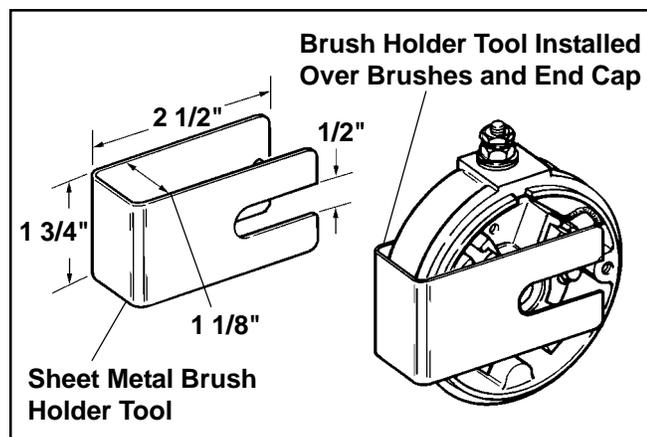

Figure 8-36. Brush Holder Tool (Style "A" End Cap).
**NOTE:** Use a brush holder tool to keep the brushes in the pockets. A brush holder tool can easily be made from thin sheet metal. See Figure 8-36.